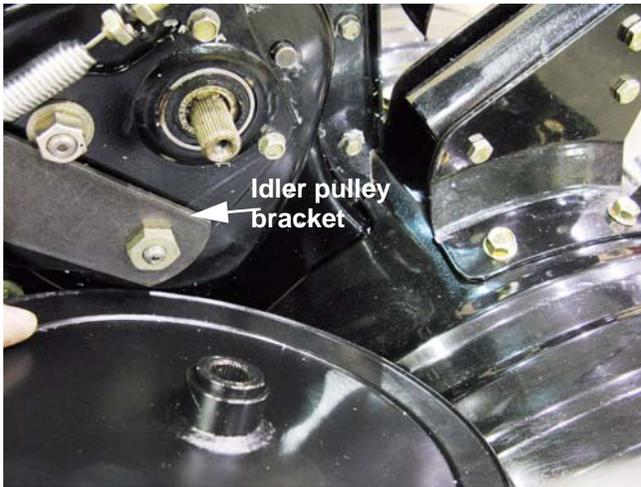

Figure 2.9
2. Remove the input pulley from the chain case input shaft using a 7/16" wrench. Selecting one of the gears that engages wheels and tines will help keep the pulley from rotating. See Figure 2.9.